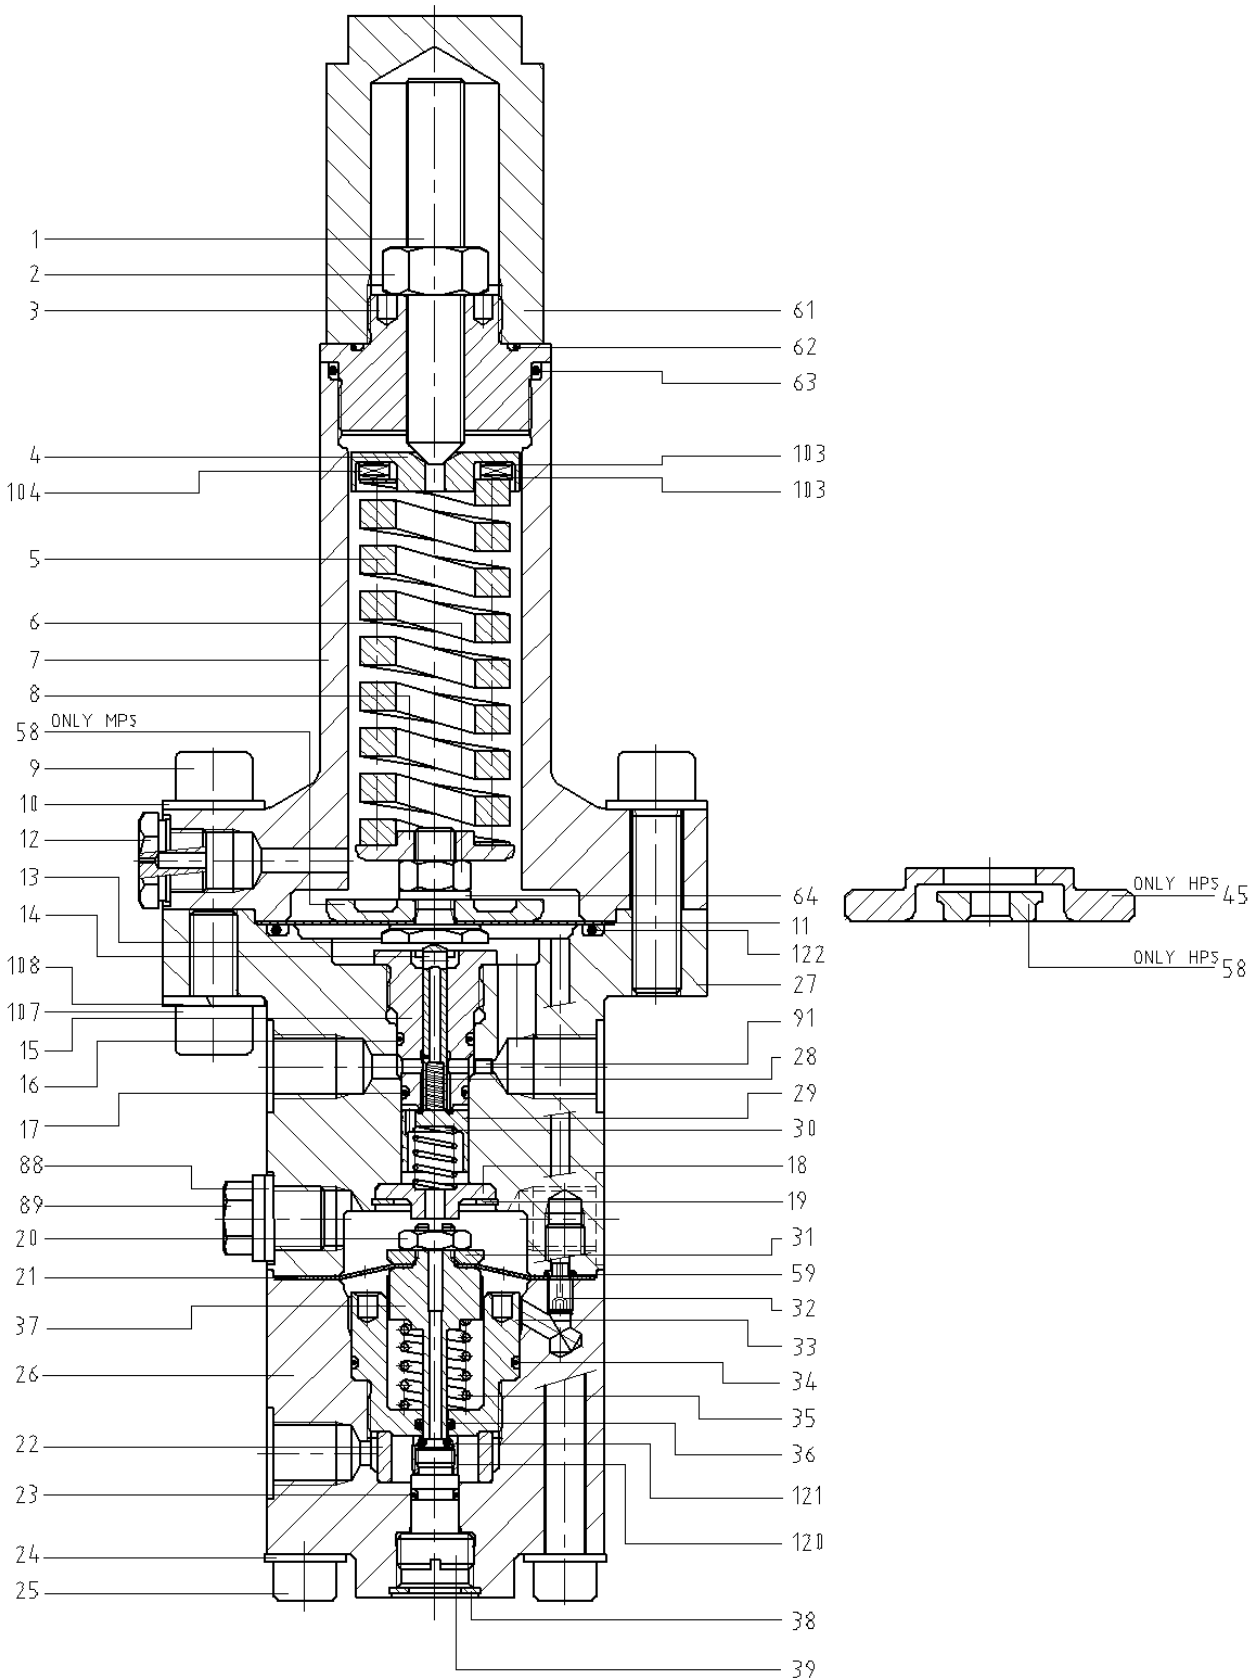

Figure 12: Position numbers HON P095
For an external tightness test, all partitions between the different pressurised parts of the pilot should be soaped down or sprayed with a leak-detection spray. Also do this for all couplings, bolt holes, breather opening and the stabiliser set screw (pos. 39, Figure 12:).